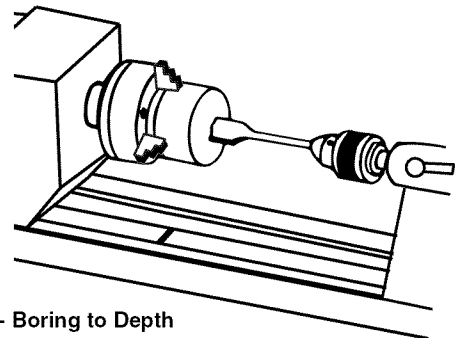

Figure 52 - Boring to Depth
- The first step is to remove as much wood as possible by boring into the center with the largest wood bit available. This can be accomplished as illustrated in Figure 52. Be careful to measure in advance the depth to which drill can be allowed to go.